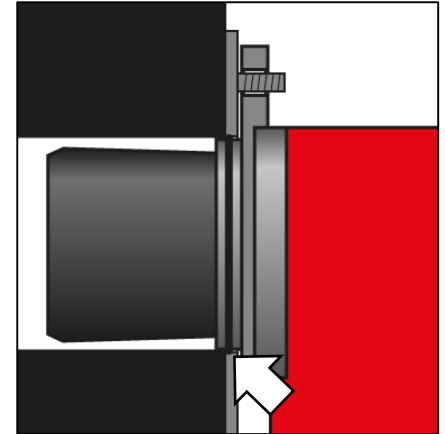

Fig. 2 Sealing the burner to the flange
- ▶ The seal between the burner and its mounting flange must form a gas tight seal to prevent leakage of potentially dangerous gases from the combustion chamber (see Fig. 2).